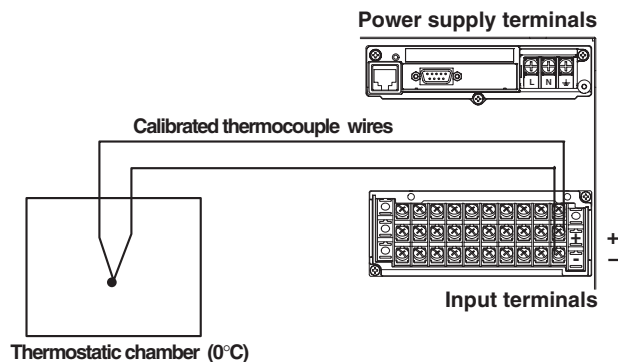

Figure 2.2 Connection diagram
- 1 Connect the instruments as shown in figure 2.2.